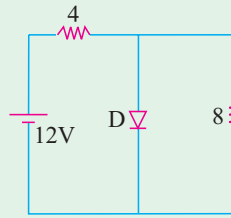

Fig. 52.50
2. What is the current supplied by the battery in Fig. 52.50 if *D* is an ideal diode. [3 A]